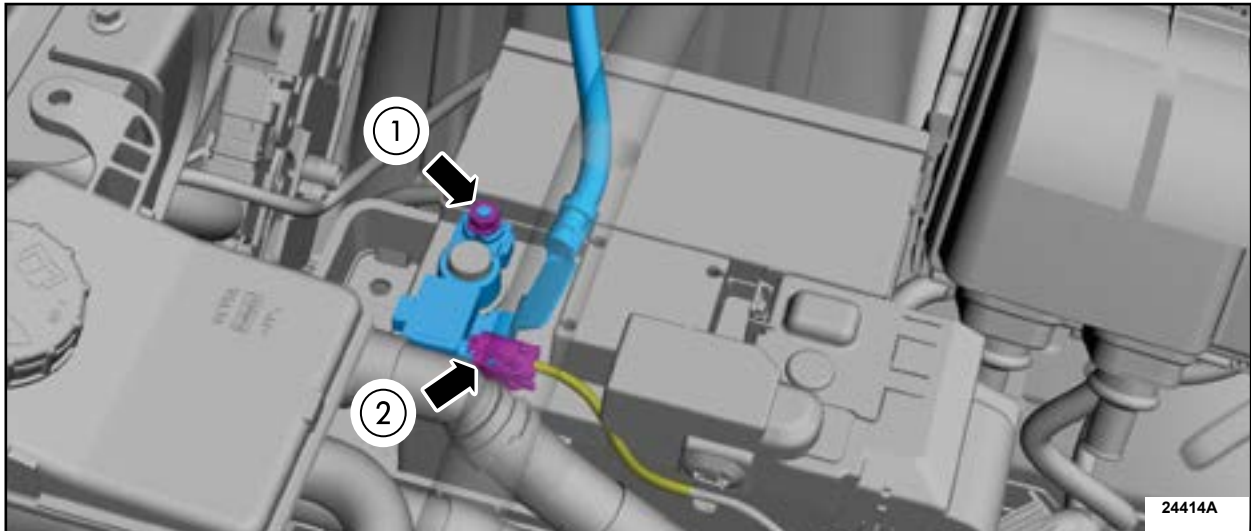

FIGURE 1
2. Loosen, but do not remove the nut. Position the negative battery cable aside. See Figure 1.
3. Disconnect the BMS electrical connector from the sensor. See Figure 1.